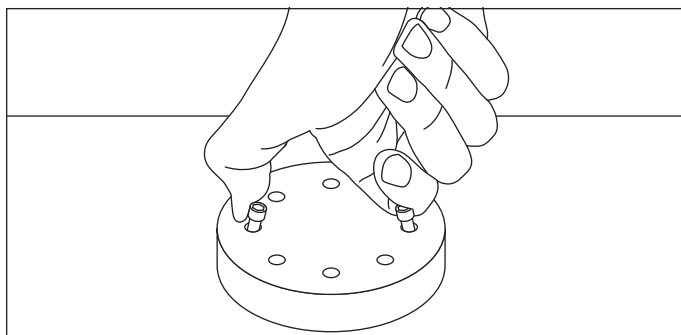

Figure 5.3A: Piston removal
3. Loosen the piston head bolts. Remove the piston as shown in figure 5.3A by pinching two loose bolts together.
3. Remove the piston head by loosening and removing the socket head bolts holding the piston head to the piston platform (see figure 5.3A).